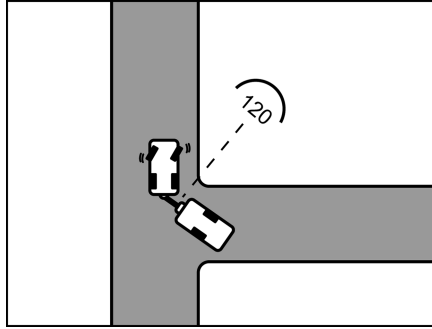

Fig. 11 Approach
- As soon as both vehicles are at an approximate angle of 120° to each other, come to a stop (Bild 11).